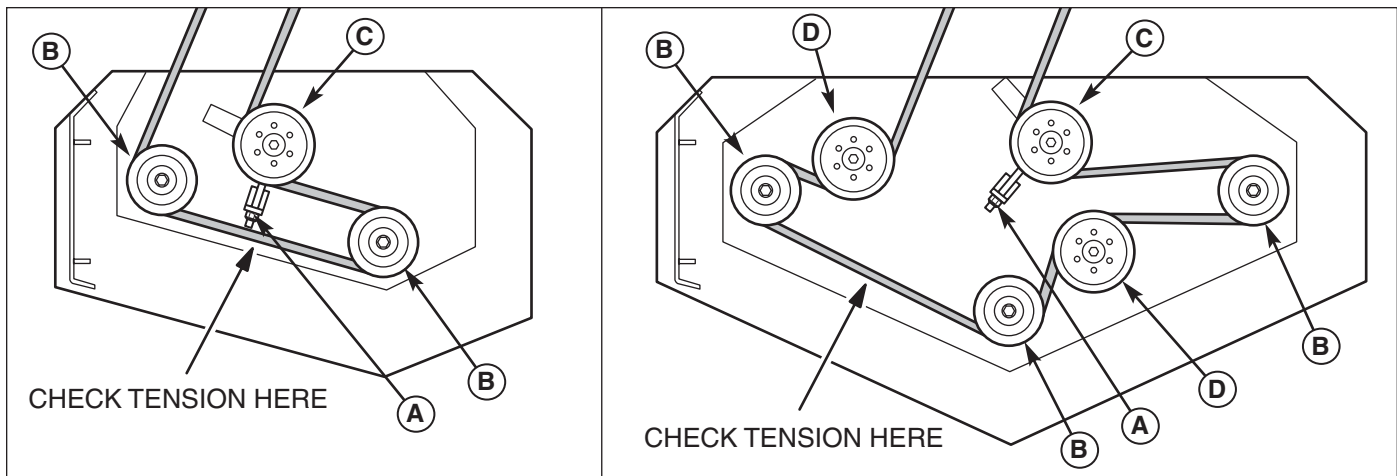

Figure 14. PTO Drive Belt
2. Turn the adjustment nut (A) until a 10lbs. (13,5Nm) force is required to deflect the belt 1/2" (1,3cm) between the spindle pulleys (see Figure 14).
2. Loosen the adjustment nut (A) until the belt is slack enough to remove from one of the spindle pulleys.
3. Remove the old belt and replace with a new one. Make sure the V-side of the belt runs in the pulley grooves (see Figure 14).
4. Tighten the adjustment nut (A) until a 10lbs. (13,5Nm) force is required to deflect the belt 1/2" (1,3cm) between the spindle pulleys (see Figure 14).